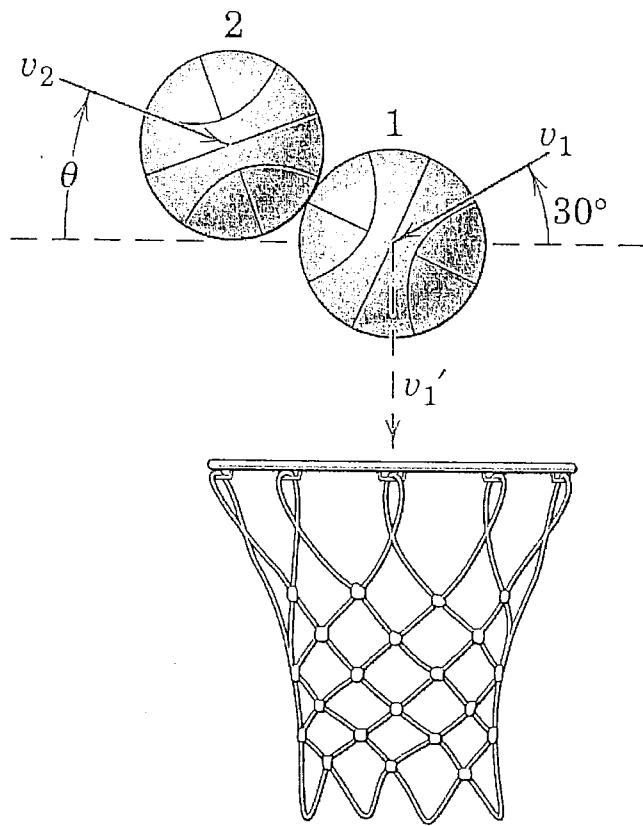

Fig. Q. 11
11. During a pregame warm up period, two basketballs of identical mass and dimensions collide above the hoop when in the positions shown in Fig. Q. 11. Just before impact, ball 1 has a velocity v_1 which makes a 30° angle with the horizontal. If the velocity v_2 of ball 2 just before impact has the same magnitude as v_1 , determine the two possible values of the angle, measured from the horizontal, which will cause ball 1 to go directly through the center of the basket. The coefficient of restitution (e) is 0.7. [8]